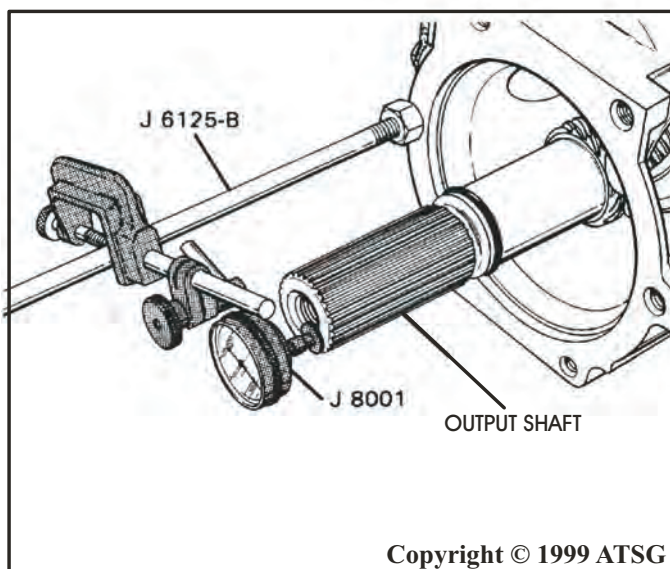

Figure 39
9. Attach J-6125-B to one of the bolt holes at the rear of the case as shown in Figure 39.
10. Install dial indicator on the shaft and index it to the end of the output shaft and zero the dial indicator, as shown in Figure 39.
11. Move the output shaft in and out and record the amount of rear end play (See Figure 39).